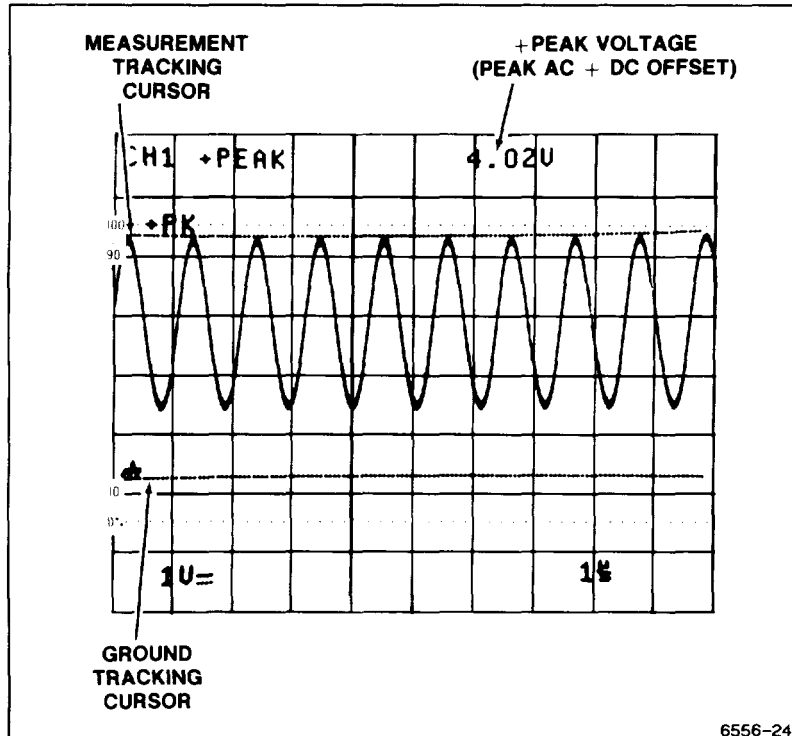

Figure 5-1. +PEAK voltage measurement and tracking cursors.
6. See Figure 5-1. The test signal used for the example has a dc offset (as shown by the position of the TRACK \overline{H} cursor) and +PEAK value (peak ac + dc) as indicated by the voltage readout.